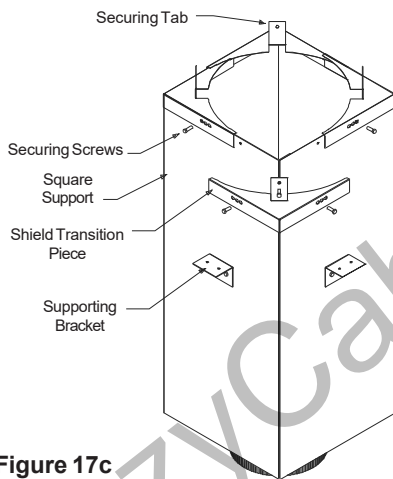

Figure 17c
1. Position one (1) Shield Transition Piece on each corner of the Square Ceiling Support (SBCS) (Figure 17c).
2. Secure in place through the appropriate holes in the Shield Transition Piece (STP) matching the holes in the Square Support (SBCS). See Figure 17c.